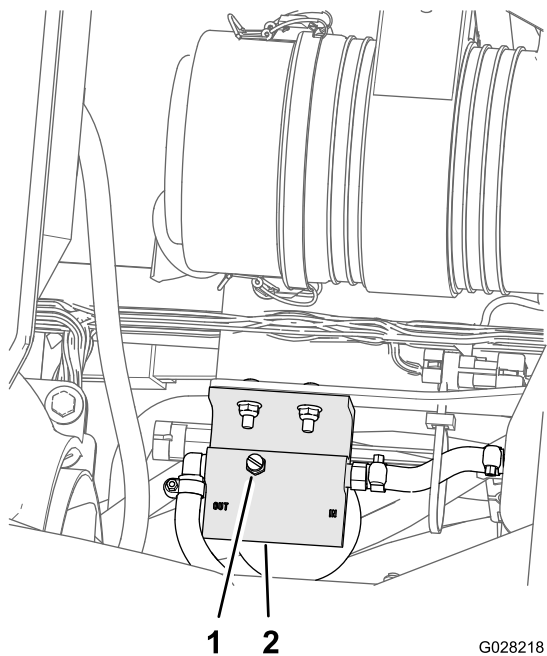

Figure 75
5. Loosen the vent plug at the top of the fuel/water separator (Figure 75).
7. Tighten the vent plug and turn the starter switch to the OFF position (Figure 75).